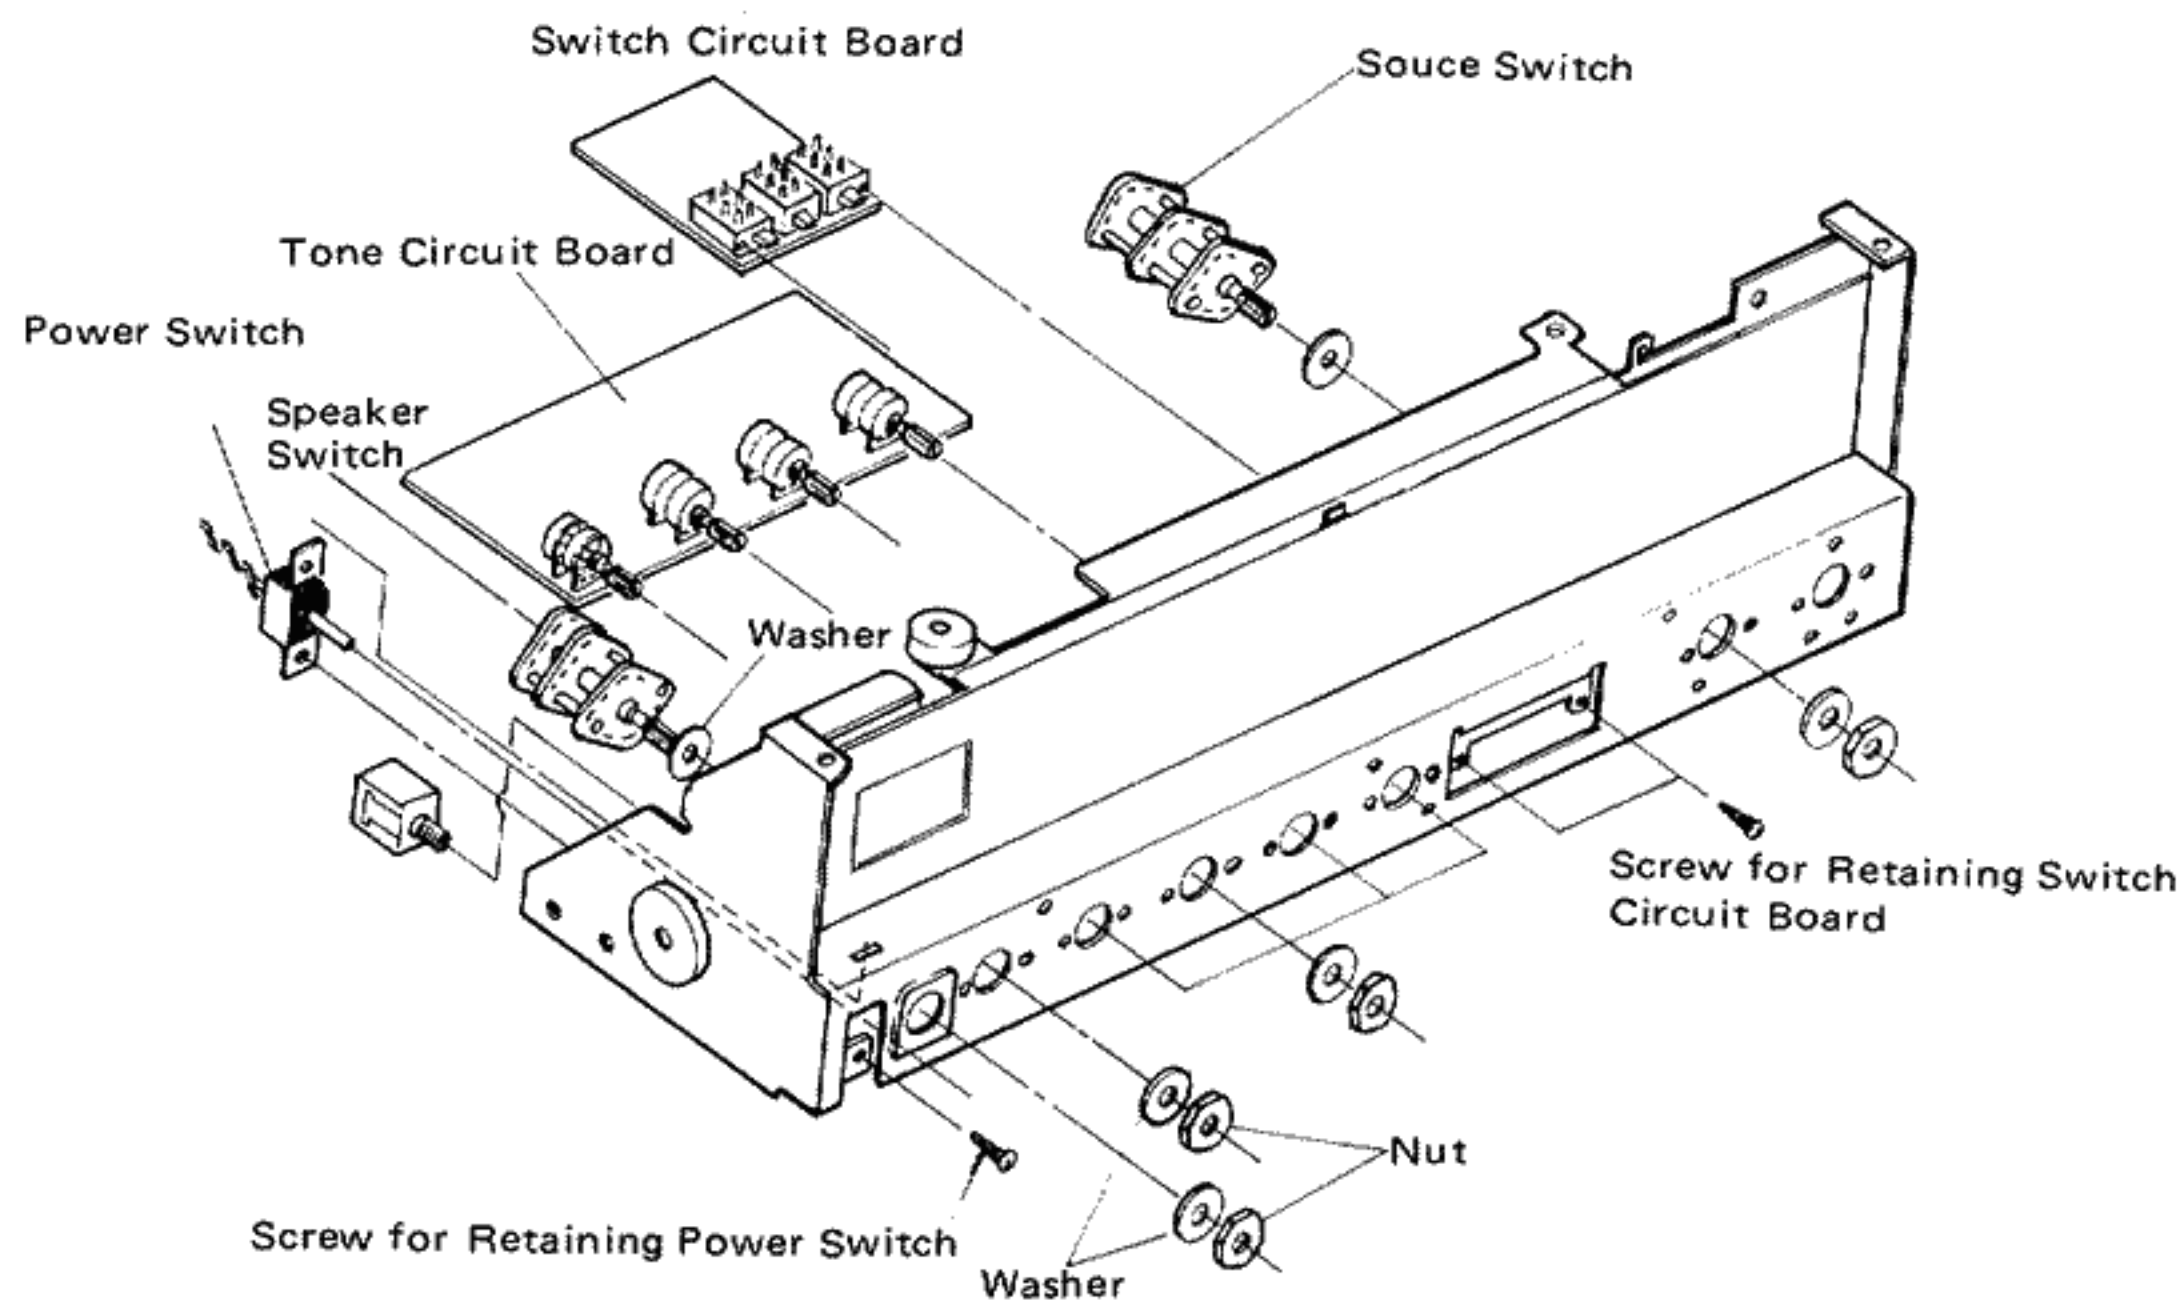

Fig. 4
1. Remove front panel as inscribed before. So power, speaker and source switches, and headphone jack can be simply replaced as illustrated in Fig. 4.
- 2. To replace other controls, release signal cords to tone circuit board or switch circuit board from clamps and remove circuit boards from front bracket. Then replace required parts. (see Fig. 4)